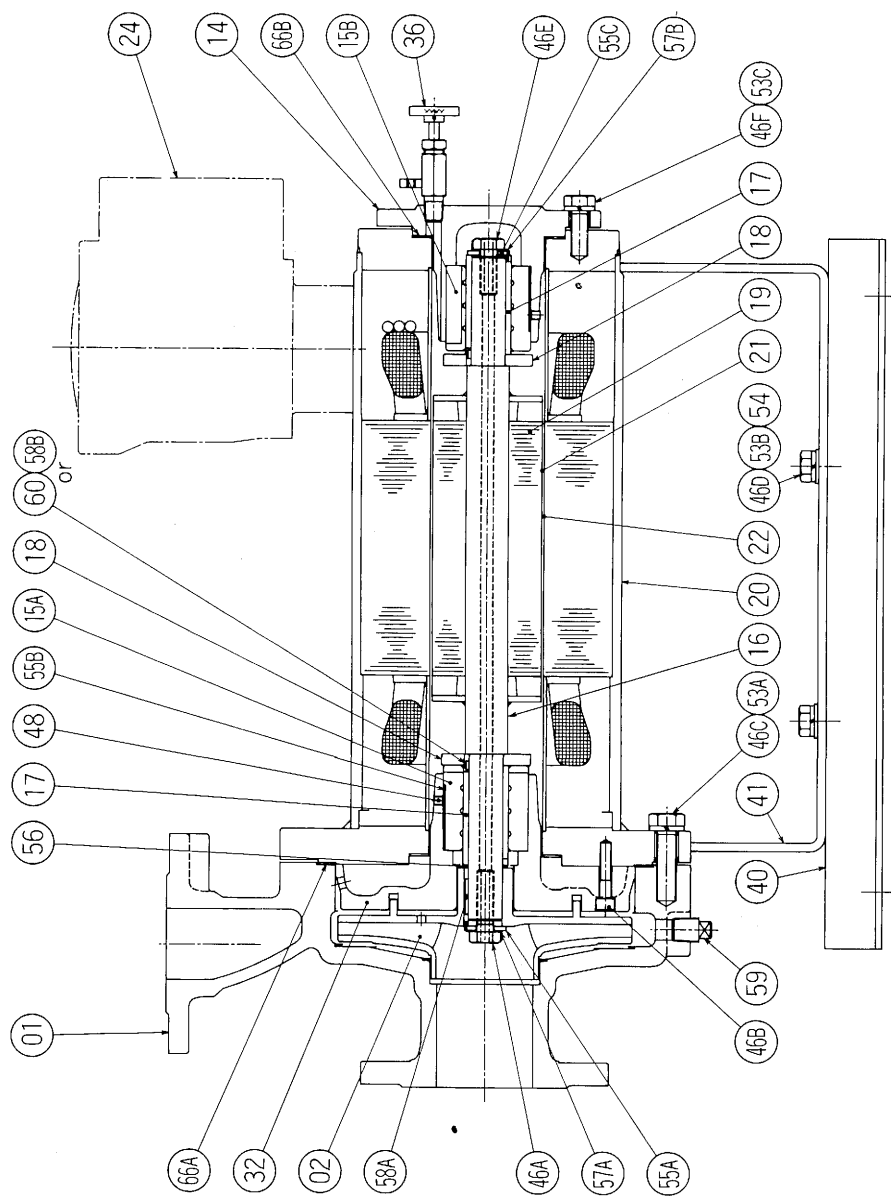

Fig. 1 BASIC MODEL(F-V TYPE)
Basic models have two types of construction that have different circulation flow pattern, the hollow shaft construction and the circulation pipe construction. Constructions of the basic model with the hollow shaft (type F-V and FA-V) are shown in Figure 1 and 2. Constructions of basic model with a circulation pipe are shown in Figure 3 and 4. Photographs of component part of the FA-type are shown in Figure 5. The pump and (squirrel-cage induction) motor are assembled in one housing requiring no dynamic seal. The stator and rotor assembly are hermetically sealed with their individual cans. The motor is isolated from the pumped fluid. In the hollow shaft construction, pumped liquid flows from the discharge side of the
On the F-type shown in Figure 1 and 3, the pump is close-coupled to the motor. On the FA-types, the pump is mounted with Adapter (33) .In addition to the basic F and FA-types, a variety of models can be provided to meet with a wide range of applications. Following are descriptions of modified pumps available.